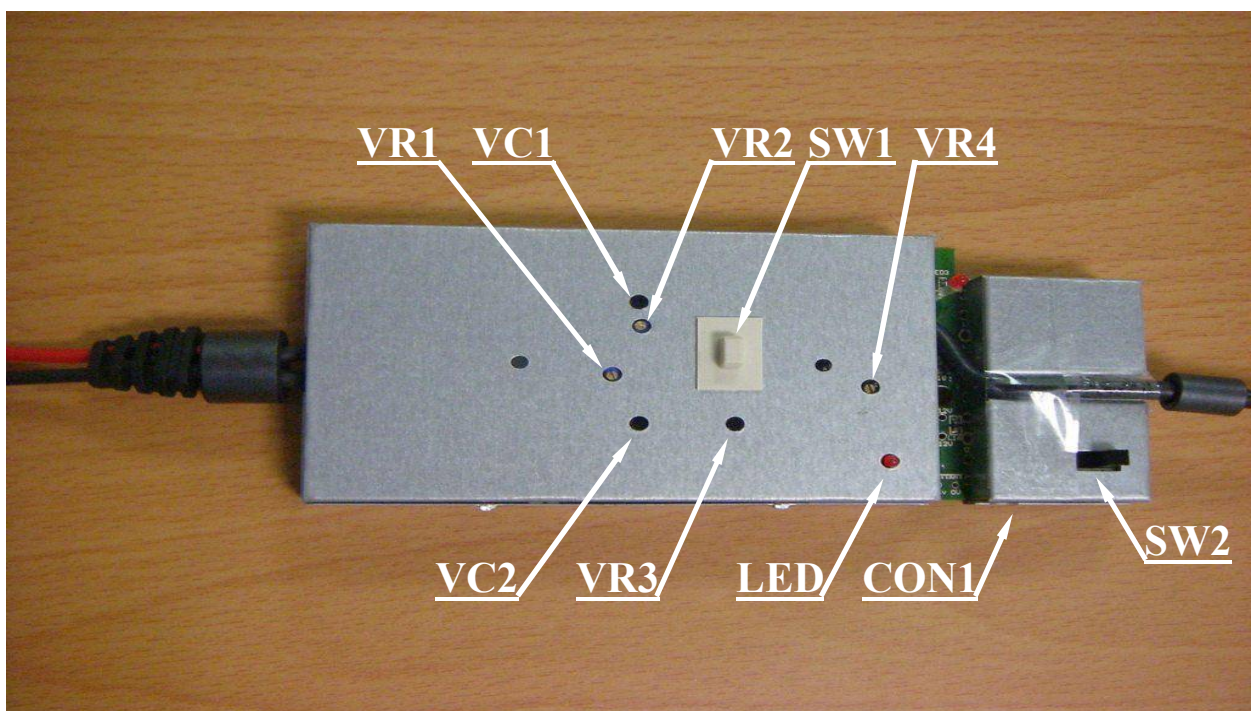

Fig. 5
2. Explanation of adjustment point. Please refer to Fig. 5.